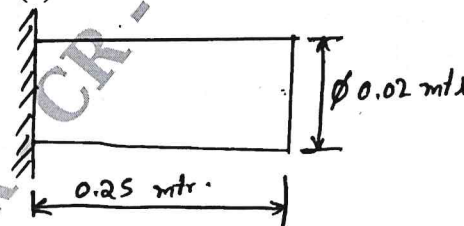

Fig Q10(b)
b. Evaluate eigen value and eigen vector of longitudinal vibration of the constrained uniform circular bar shown in Fig Q10(b). Take minimum 2 elements.  $E = 210\text{ GPa}$ ,  $\rho = 7860\text{ kg/m}^3$ .